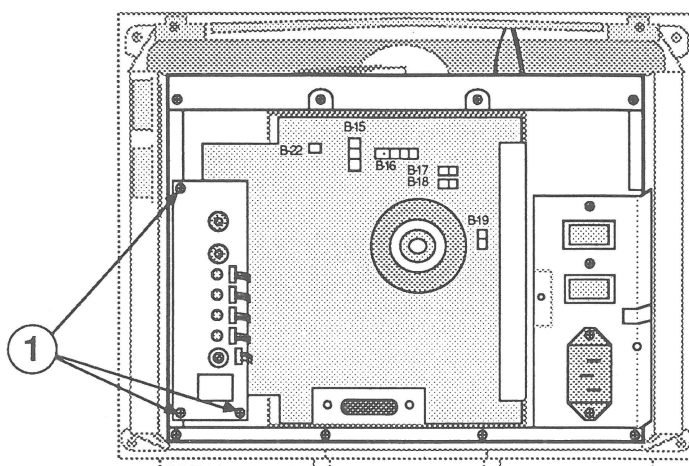

FIGURE 13
4. Replace the three screws (Figure 13, #1) that secure board "H" to the chassis frame.